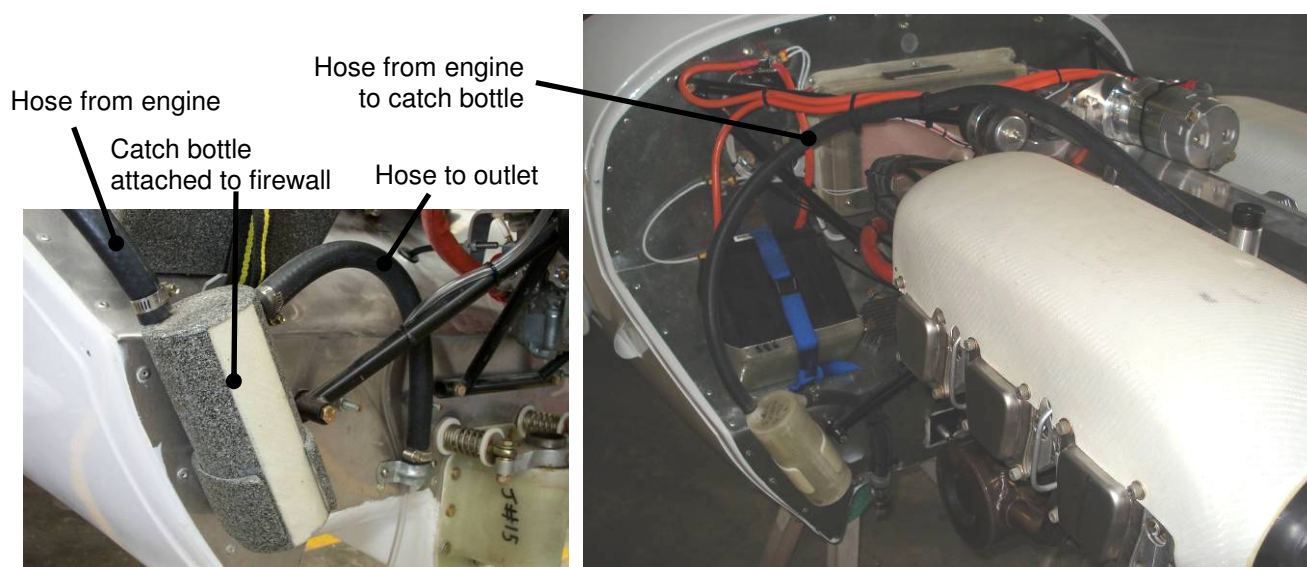

Figure 9. Crankcase Breather Installation
- The Jabiru 3300 engine has a crankcase breather connection built into the dipstick housing. This is to be connected as shown in Figure 9 below.